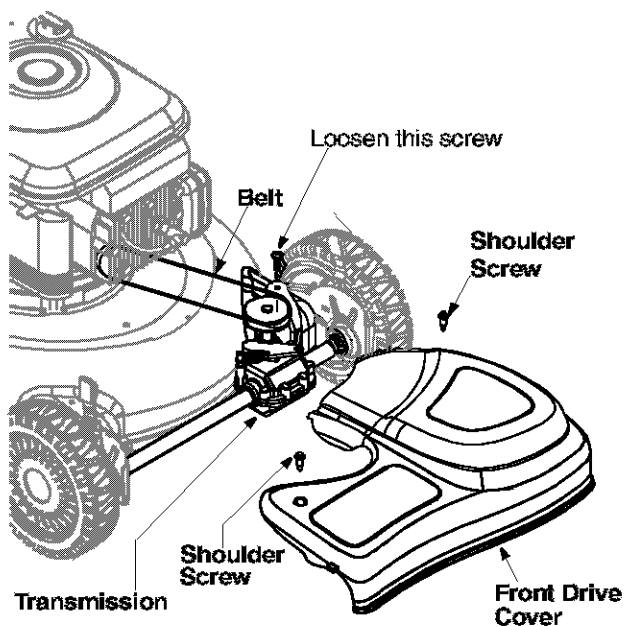

Figure 14
- Remove two shoulder screws securing the front drive cover to the mower deck. See Figure 14.
- Using a torx wrench, loosen the screw holding the belt tension spring to the transmission. See Figure 14. Do not remove the screw completely. As you loosen the screw, the tension on the belt will be released.